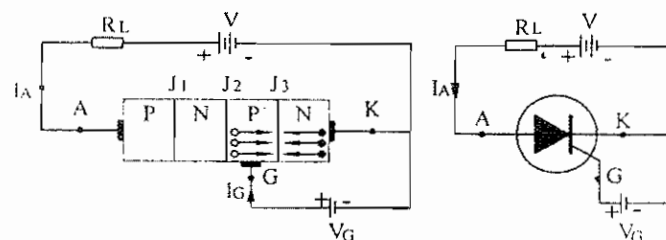

Fig:14.34.
In the normal operating conditions, a positive voltage is applied to the anode (A) and a small positive voltage is applied to the gate (G) with respect to the cathode (K) as shown in Fig:14.34.